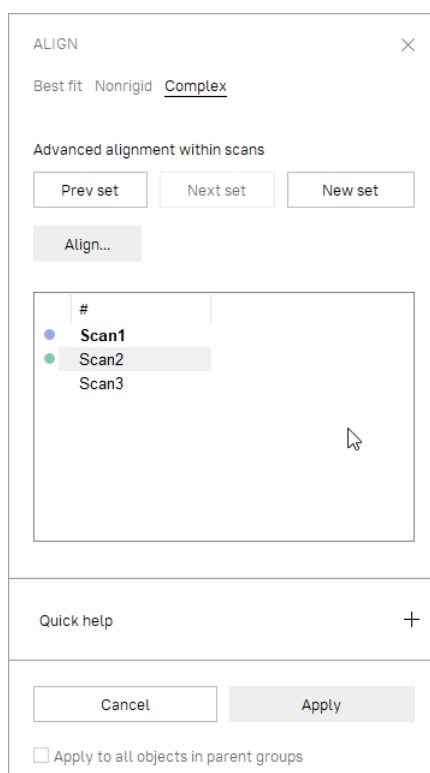

Figure 94: *Align* panel: *Complex* tab.
1. Make sure the *Complex* tab is selected (see Figure 94).